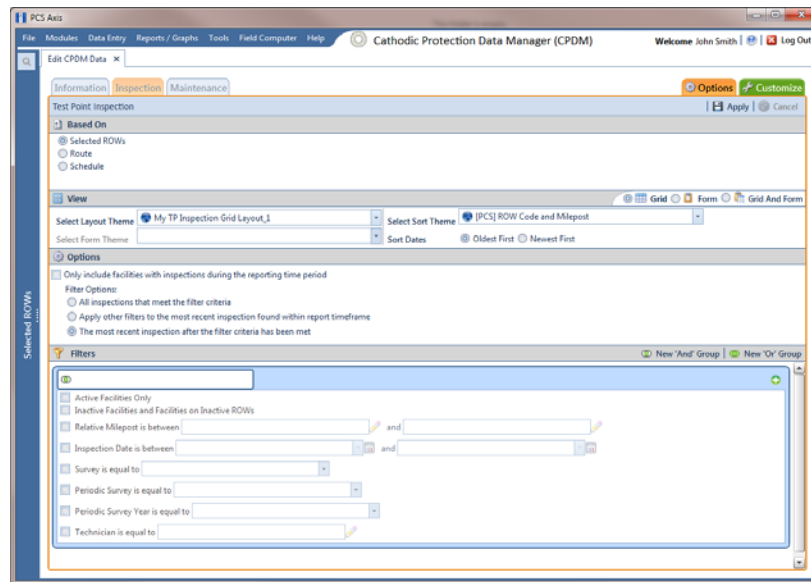

Figure 7-32. Options
- b Click the **Options** tab  to open the options page. Then click the option **Selected ROWs** in the *Based On* group box (Figure 7-32).
- c** To apply a filter to the grid, click the check box for a filter listed in the *Filters* group box (Figure 7-32, page 242).